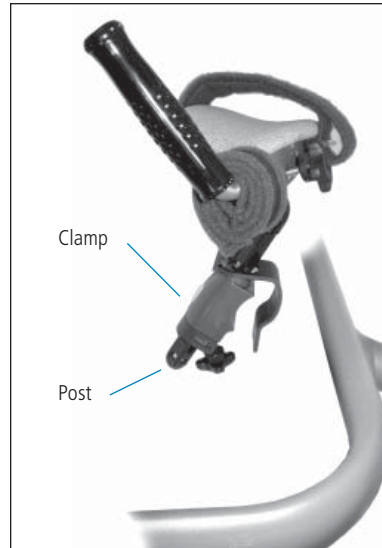

Figure 8
Most accessories are attached to the frame by means of clamps and posts. Figures 8–9 show how to attach the clamps to the top bar of the Pacer.
Note: For slimmer users, the clamps for any accessory can be attached on the inside of the top bar as shown in Figure 11. This positions prompts closer to the user. See Figures 8, 9, and 15 to reposition clamps and posts.
- Or completely remove the arm prompt from the Pacer as described in Figures 8 & 9.
- See Figures 8 and 9 for instructions on how to remove and reattach the clamps.
- Loosen knobs (C).
- Slide chest prompt backward or forward on the frame, and retighten knobs (C).
- Or completely remove the chest prompt from the Pacer (Figures 8 & 9).
- Loosen knob (A).
- Or completely remove the handholds and clamps from the Pacer (see Figures 8 and 9).